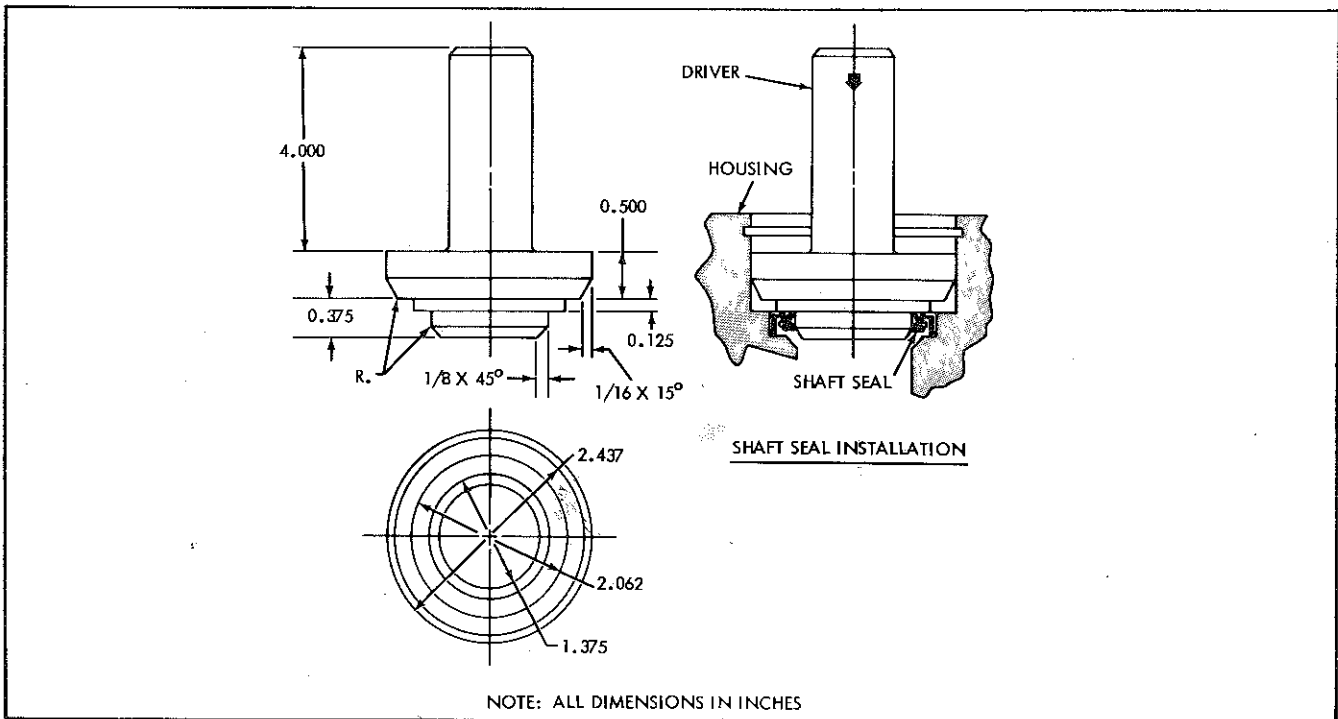

Figure VI-39. Shaft Seal Driver
- Place the seal in position and drive it into the pump or motor housing. See Figure VI-39 for shaft seal driver dimensions.